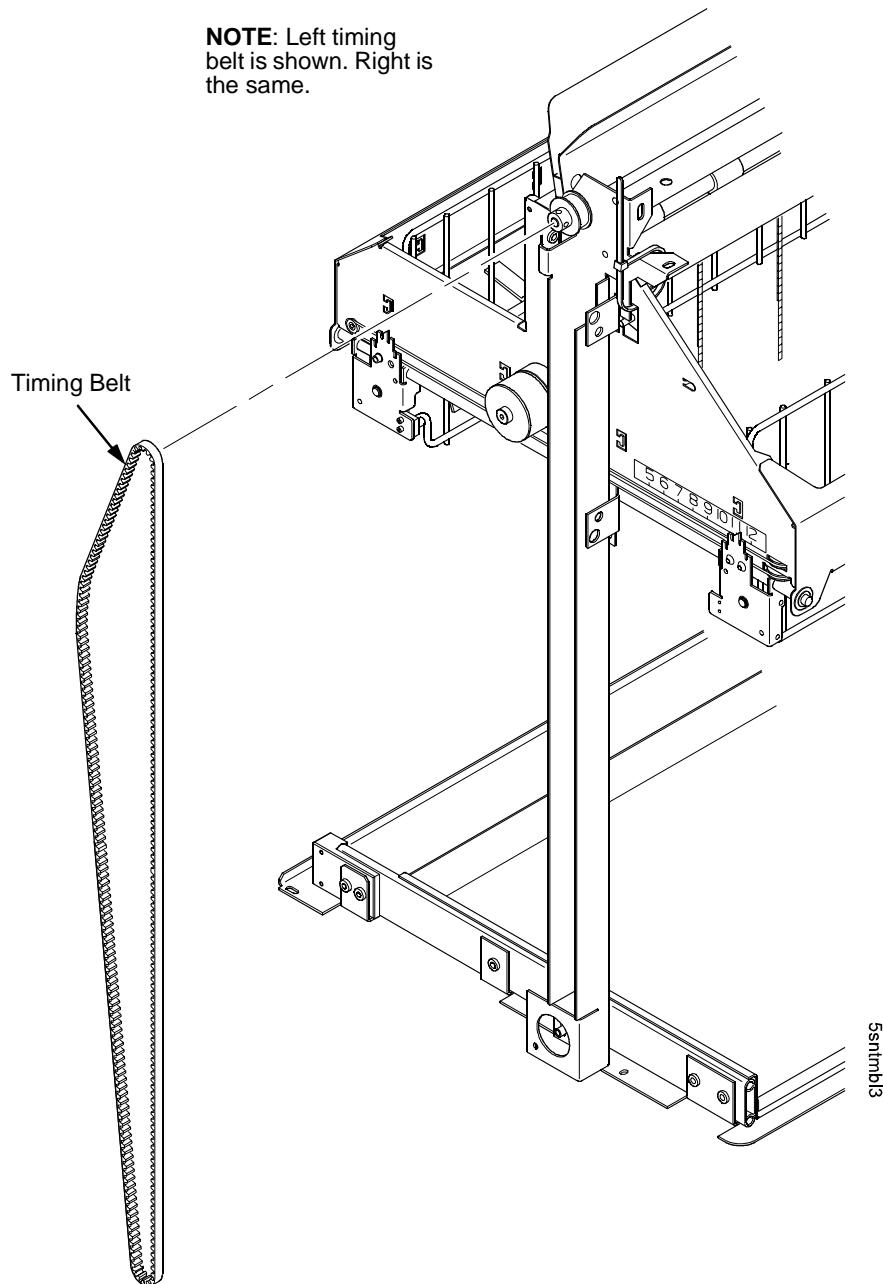

Figure 93. Removing the Timing Belt
8. Remove the timing belt by working it around the vertical rail and constant force spring. (Figure 93.)